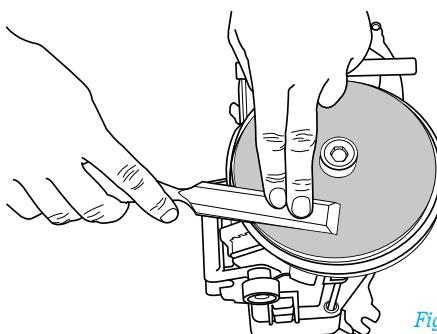

Fig. 4-2
**Flatten tool back on top of wheel using a two-handed, freehand method.** **IMPORTANT:** Lay tool onto Abrasive heel first. Do not grind or round off the cutting edge! See fig. 4-2.